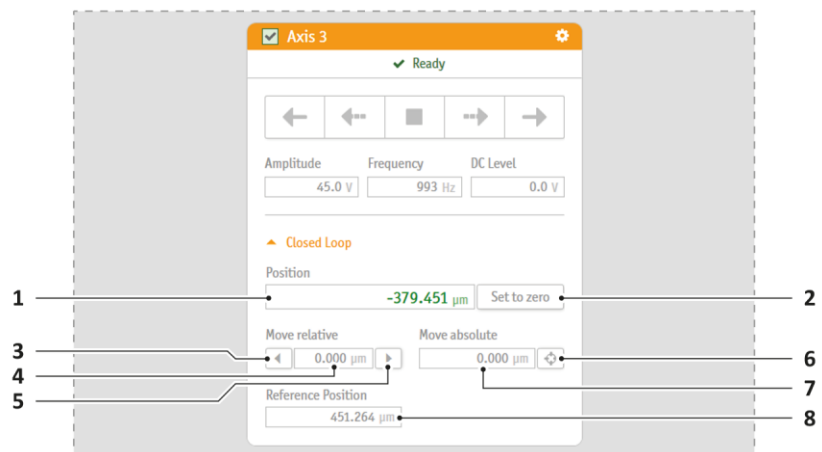

Figure 15 Axis tile, closed-loop positioning elements
The position display (Figure 15/1) indicates the current position relative to the current zero position.
The reference position display (Figure 15/8) indicates the position of the current zero position relative to the reference mark.
To find the reference mark after a device start up, the positioner has to cross it at least one time. Otherwise the reference position display (Figure 15/8) displays "not found".
- The reference position display (Figure 15/8) indicates the position of the current zero position relative to the reference mark.
- To set the current position as zero position, click [Set to zero] (Figure 15/2).
- The value in the position display (Figure 15/1) changes to "0".
- The value in the reference position display (Figure 15/8) changes to "not found" until the reference mark is crossed the next time.
1. Into the distance setting field (Figure 15/4), type in the desired distance and press [Enter].
- To move in negative direction, click [Move in negative direction] (Figure 15/3).
- To move in positive direction, click [Move in positive direction] (Figure 15/5).
1. Into the target setting field (Figure 15/7), type in the desired target coordinates and press [Enter].
2. Click [Move to target] (Figure 15/6).